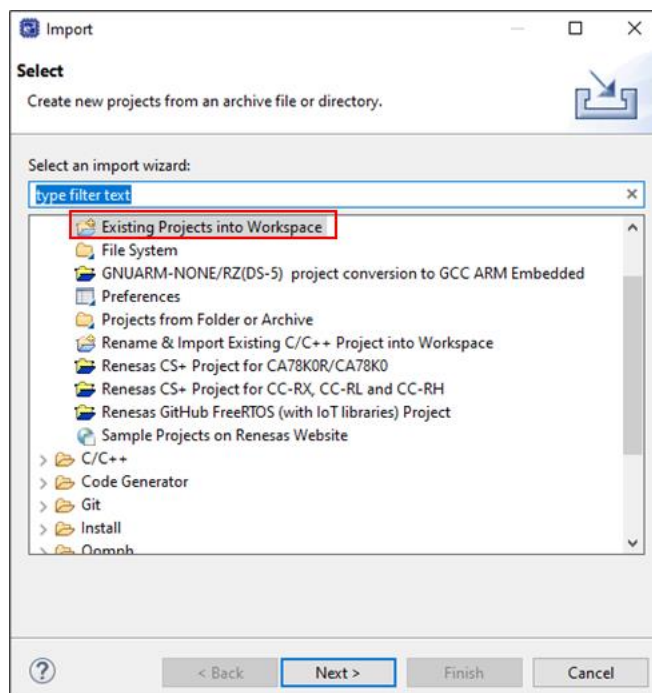

Figure 4-2. Import sample project on e² Studio (1)
(2) Open e² studio and click **File >> Import**.
(3) Double-click General and select **Existing Projects into Workspace** as shown in Figure 4-2: